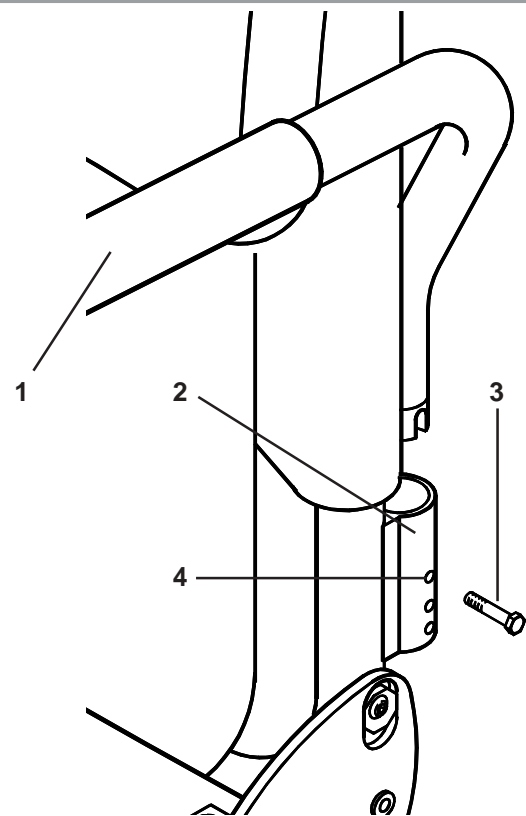

Fig. 30
The height of swing away armrests can be changed (Fig. 30). Remove the armrest (1) from the receiver (2). Remove the height adjustment screw (3), using a 10mm A/F spanner, and replace in the required tapped hole (4), and tighten to 7-12Nm torque. Replace the armrest into the receiver.